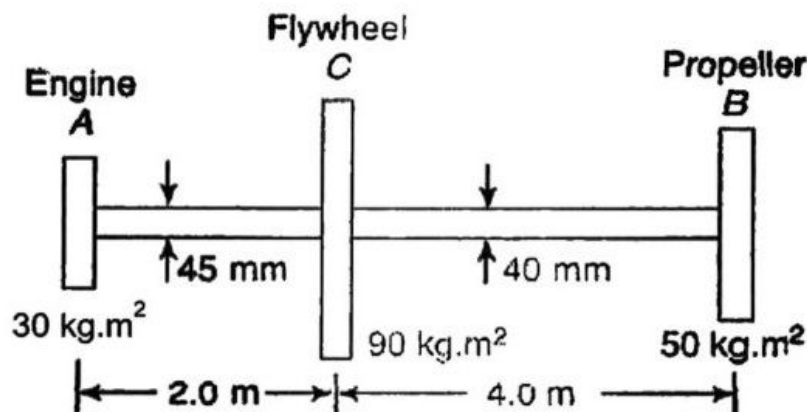

Figure 15(b)
- (b) A torsional system is shown in figure 15(b). Find the frequencies of torsional vibrations and the positions of the nodes. Also, find the amplitudes of vibrations. $G = 84 \times 10^2 \text{ N/m}^2$